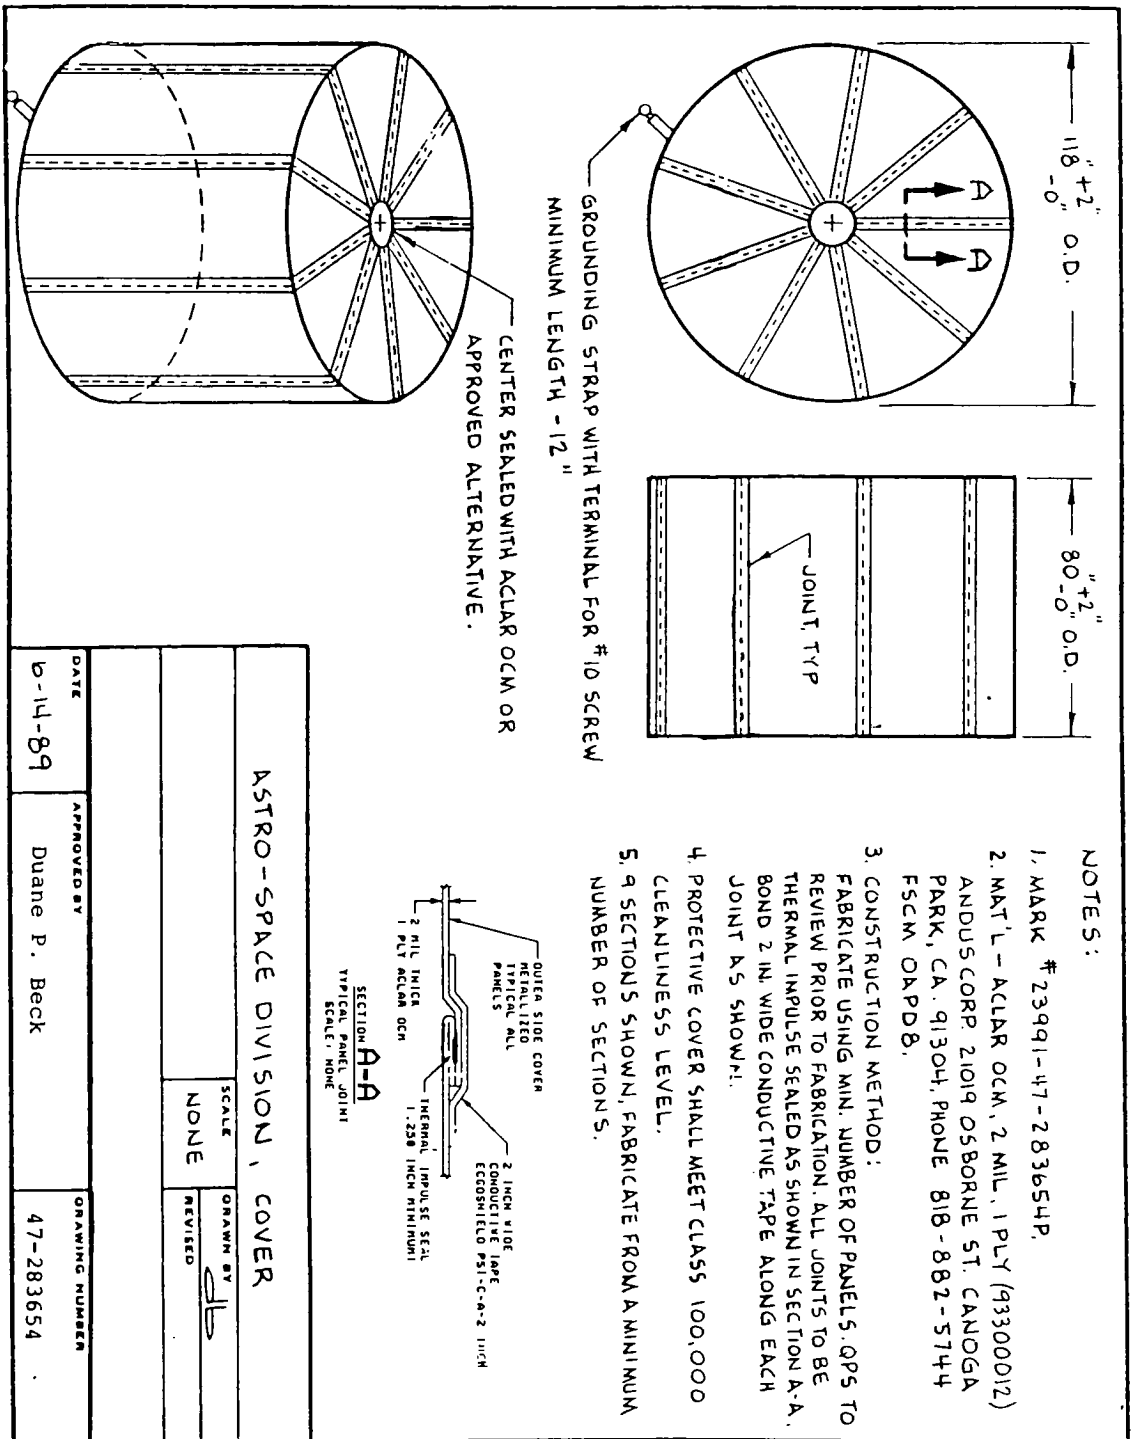

Figure II.3. Completed drawing of bag to cover a satellite
* For a completed drawing see Figure II.3.